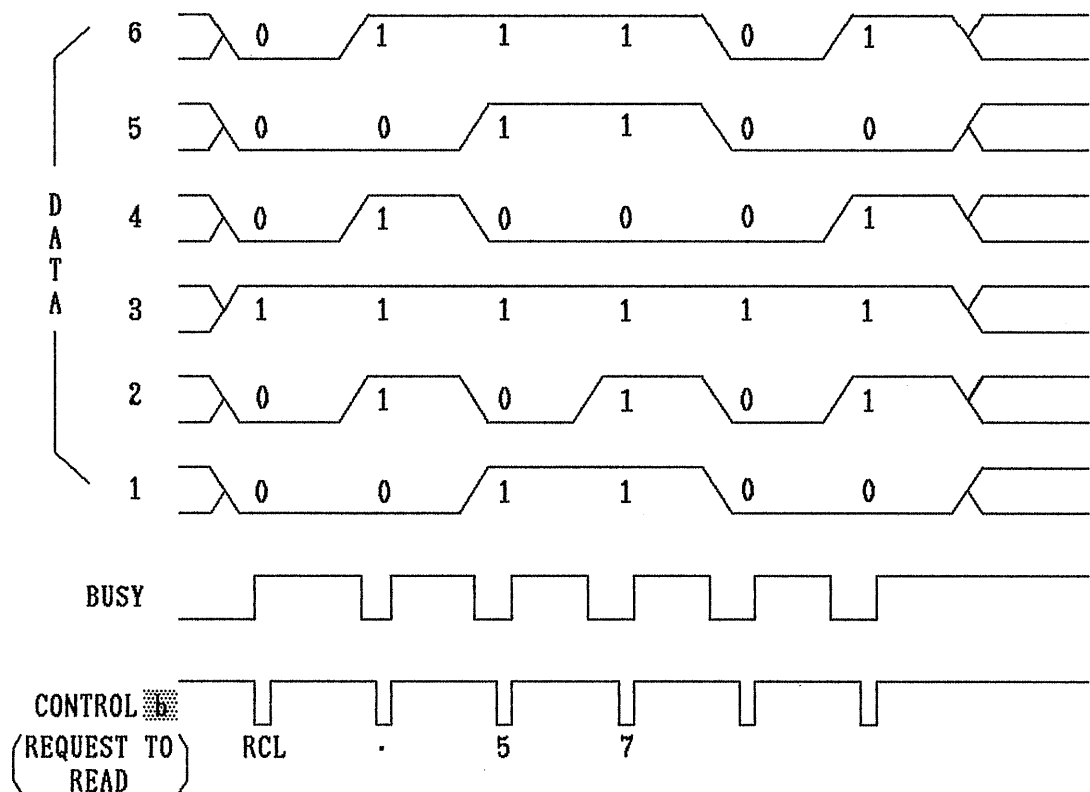

Figure 5-3
- 3) Set the data "101110" according to the code table and send CONTROL  signal as shown in Figure 5-3.